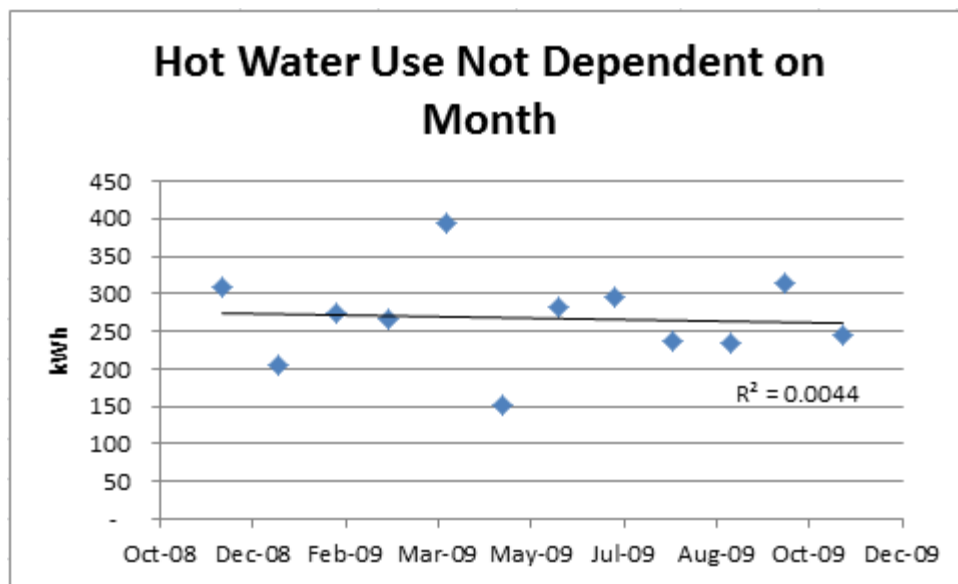

Figure 3.40. Electricity use for hot water does not depend on the month of the year
15. Change the trendline type back to linear. Change the title to **Hot Water Energy Use Not Dependent on Month**. Compare your chart to Figure 3.40.